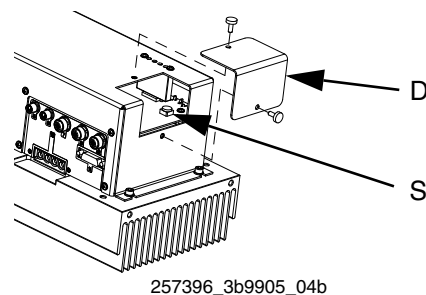

FIG. 9
The Motor Control Module uses an 8-position selector switch (S) to set system maximum working pressure. See FIG. 9.
2. Remove the access cover (D). See FIG. 9.
3. Set the selector switch (S).
4. Install access cover (D).